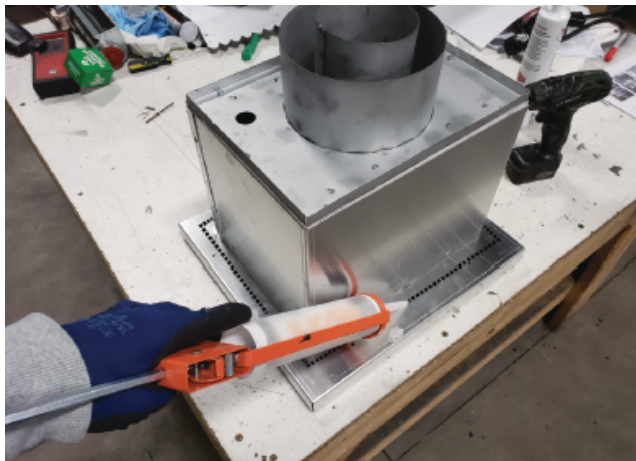
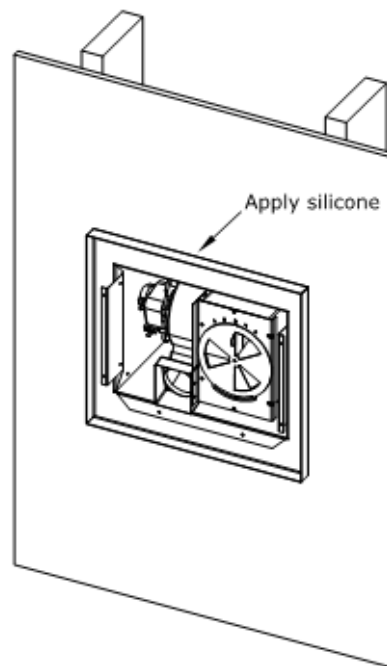

Figure 6.5 - Silicone Backside
Figure 6.8 - Installation to Exterior Wall
5. Place a bead of silicone on the backside of the power vent assembly as shown in Figure 6.5. This silicone will seal the power vent cap to the framed opening of the exterior of the building or to the Finishing Extension Kit.
6. Install the Kozy Power Vent shell into the framed opening if finishing material is 1" thick or less. Secure the assembly to the framed opening through the (8) holes shown in 6.4. Install the Kozy Power vent to the Finishing Extension Kit using (8) threaded screws provided if the finishing material is greater than 1" thick. These (8) holes are located with (2) each side of the rubber gasket.
7. If the cap is fastened to the wall, apply a bead of silicone (with a minimum of 300°F continuous exposure rating) around the cap base where it meets the exterior wall. See Figure 6.8. If the cap is fastened to a Finishing Extension Kit apply a bead of silicone around the outside seam where the Kozy Power Vent and Finishing Extension Kit meet.